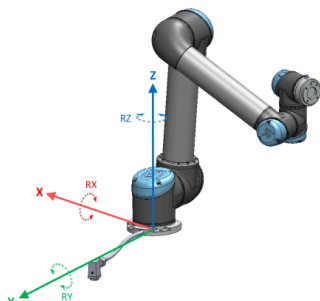

Figure 16.1: Base feature
- The Base feature is located with origin in the centre of the robot base (see figure 16.1)